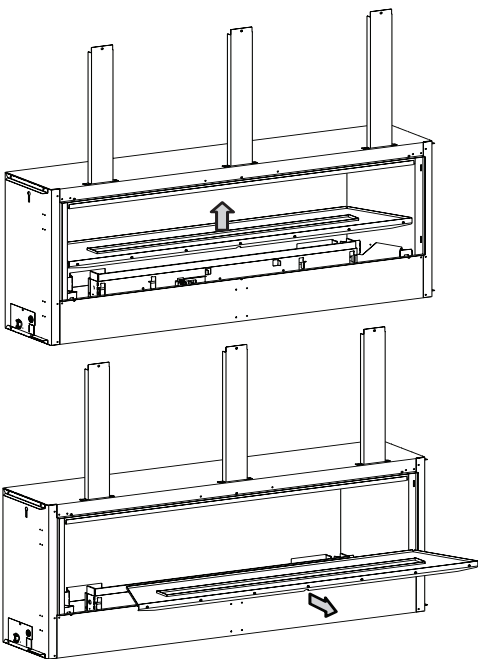

Figure 3
3. Remove the burner cover by lifting it up and out. **See Figure 3.**
11. Reinstall the burner cover removed in Step 3. **See Figure 3.**